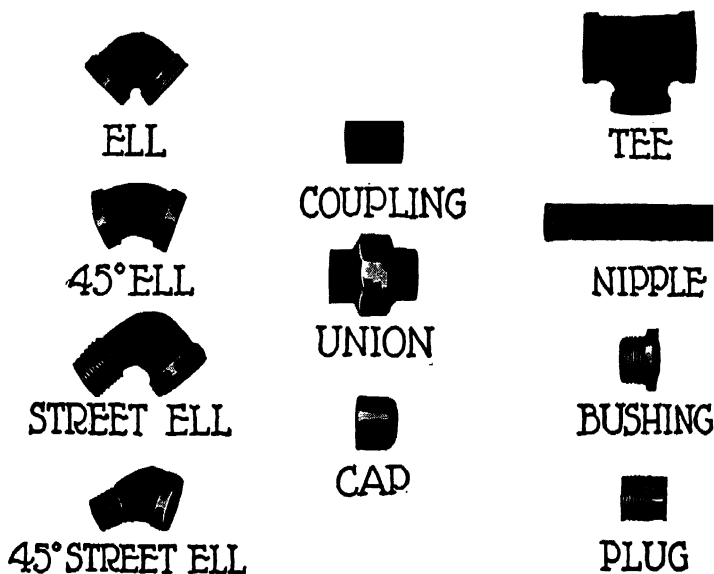

Fig. 223. Common pipe fittings
Plumbing and electrical fittings are separate finished parts often used in the construction of metal projects. Plumbing fittings are made in either cast iron or malleable iron. Malleable fittings are generally used since they do not break readily and they are not so large and bulky. Many of the common plumbing fittings are shown in Figure 223, all of which are made of malleable iron.
*Elbows* are made in either 45 or 90 deg., and are used for changing the direction of any pipe line. Note the different types of elbows (ells) in Figure 223.